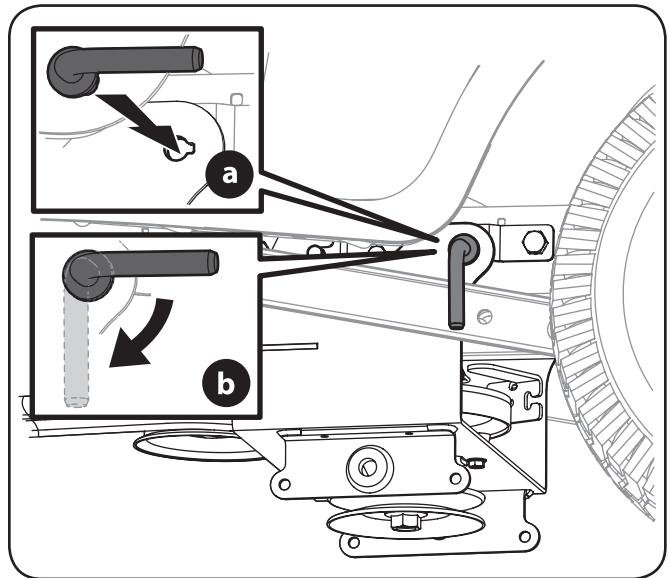

Figure 3-9
6. Secure the carriage in place with the two lock rods. See Figure 3-9.